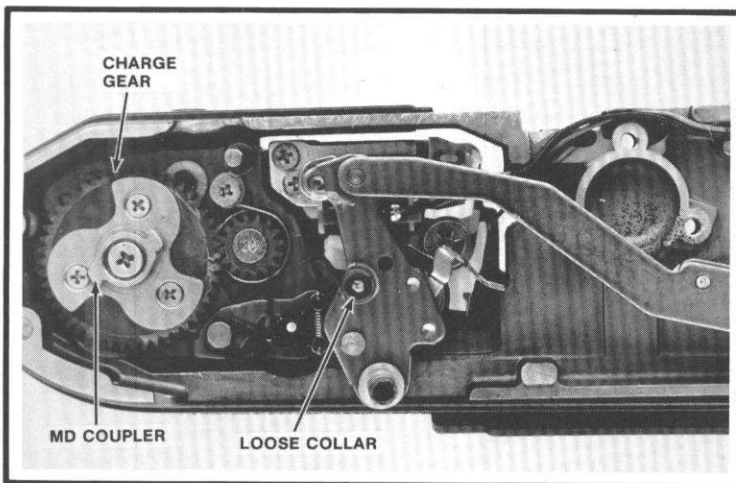

Figure 67
Caution: Watch for the loose collar on the underside of the connecting lever, Fig. 67. The collar slips over the connecting-lever post and rides against the lobes of the charge cam. You can get the collar in different diameters as an overtravel adjustment for the connecting lever. Although you should never have to make the adjustment, it's necessary to specify the size when ordering a replacement collar. Order collar CA1-4717-000 in one of the following sizes: 3mm (030), 3.2mm (032), 3.3mm (033), 3.4mm (034), 3.5mm (035), 3.6mm (036), 3.7mm (037), 3.8mm (038), or 4mm (040).
6. Remove the screw holding the MD coupler and the charge gear, Fig. 67. You may have to use M.E.K. to loosen the locking agent on the screw threads. Note: The factory uses two slightly different versions of the charge gear as an adjustment; the variation is in the angle of the rectangular center slot with respect to the gear teeth. You should never have to change the charge gear as an adjustment. But, if you have to replace a damaged charge gear, order the same type as the original. You can identify which type the camera uses by the color of the screw, Fig. 67. If the screw is black, replace the charge gear with size 010. If the screw is white (chrome), use charge gear size 050. The part number for the charge gear is CS2-0355-000.